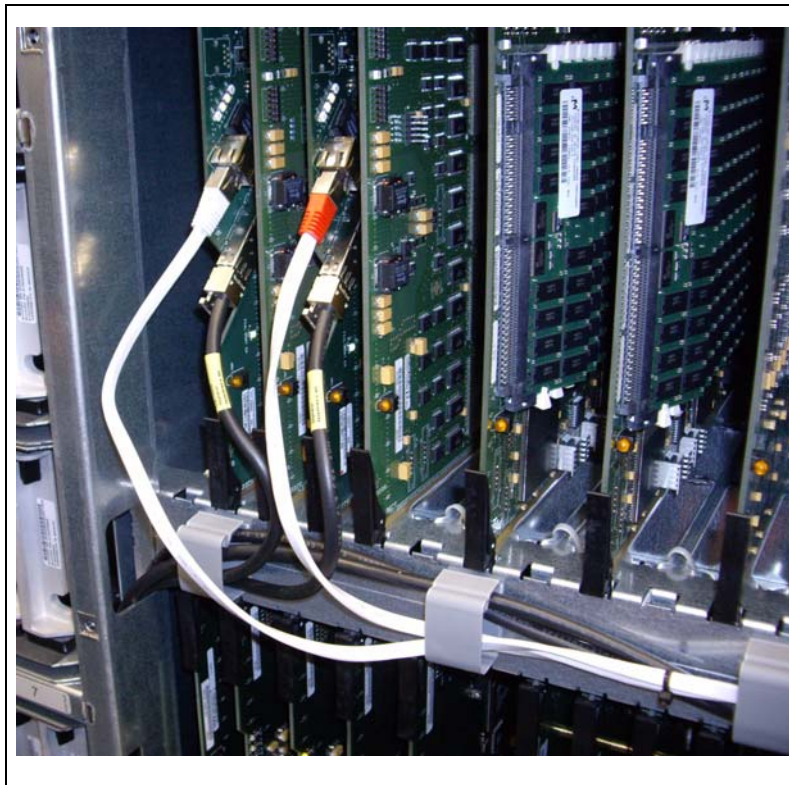

FIGURE 5-3 IFF3 Card Connections
3. Connect the Ethernet cables and Fibre Channel Cables as shown in FIGURE 5-3.
Note that in FIGURE 5-3, the **white** cables from the wiring harness connect to the Ethernet port on each card, while the black cables connect to the Fibre Channel SFP on each card.